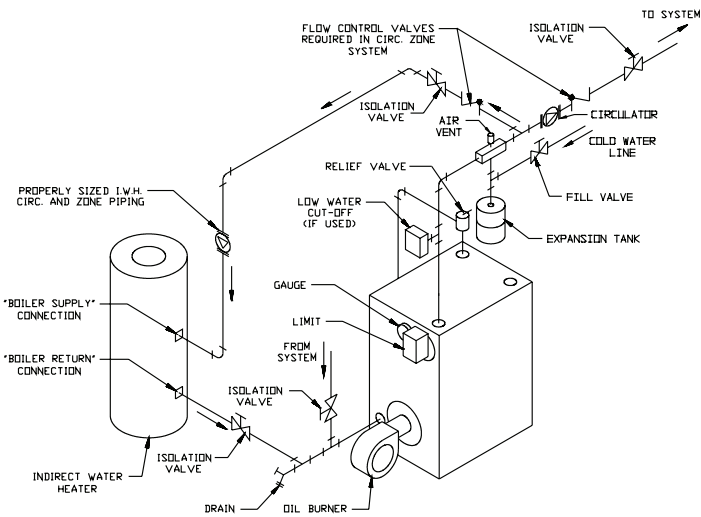

FIGURE 7.2: INDIRECT WATER HEATER BOILER SIDE PIPING
- 1) Indirect Water Heaters - Figure 7.2 shows typical indirect water heater piping. Boiler piping is the same as for any two-zone system. Figure 7.2 shows circulator zoning, which is usually preferred for indirect water heaters. Size the circulator and indirect water heater piping to obtain the boiler water flow through the indirect water heater called for by the indirect water heater manufacturer.